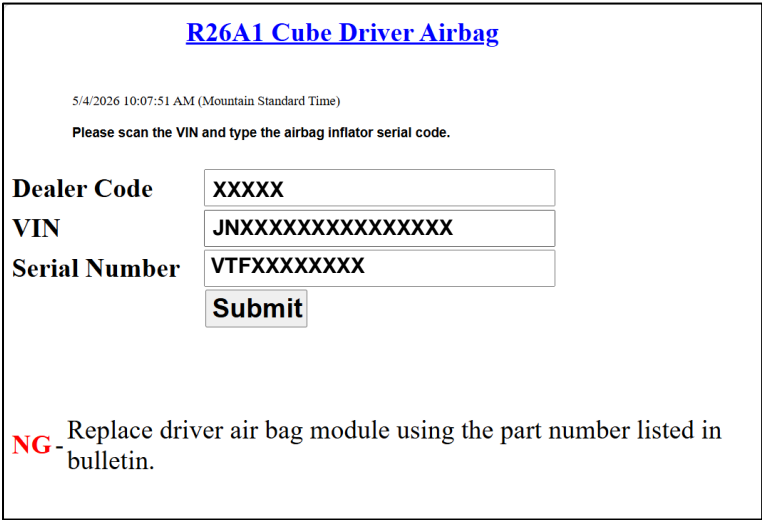

Figure 8
- If the result is **NG** (Figure 8), proceed to step 14 to replace the Driver Air Bag Module with the part listed in **PARTS INFORMATION** on the last page.